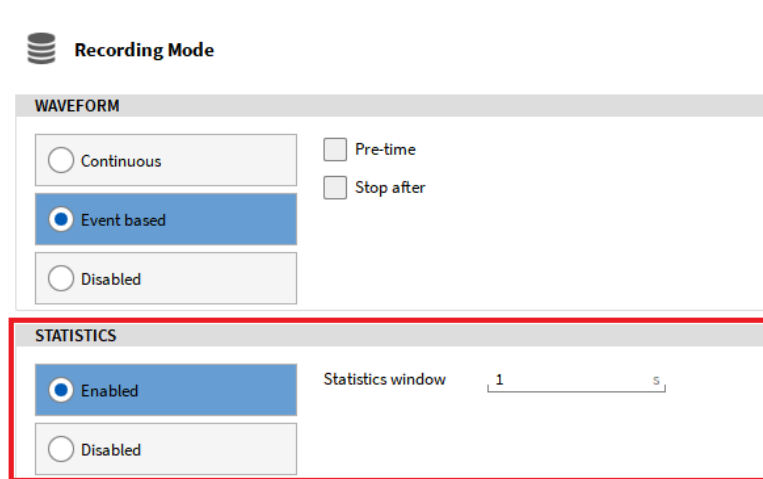

Fig. 9.48: Settings for Statistical Data in Trigger Menu
*Default* refers to the settings for the statistics data in the trigger menu, see Fig. 9.48.
**Note:** If the Statistics Data is disabled in the trigger settings (see Fig. 9.48), the columns Statistics Mode and Statistics Window disappear and are not shown in the Individual Channel Configuration anymore.